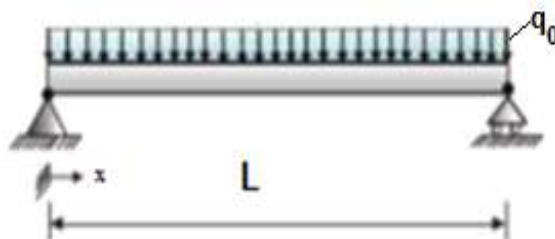

Fig: 1
3. A simply supported beam is subjected to a uniformly distributed load as shown in fig: 1 below. Given